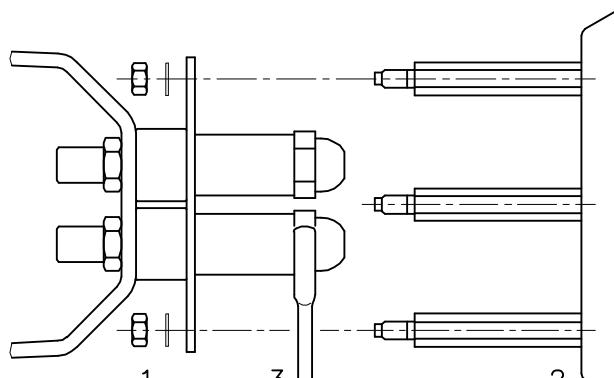

Fig. 11
- Remove the nuts 1)(Fig. 11) and the disk 2).
- Use spanner 3)(Fig. 11) to change the nozzles.